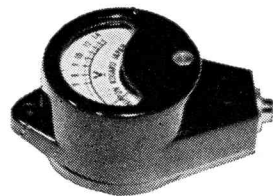

Fig. 3
- A tester (Fig. 3) is available to check the power output of new batteries and the condition of old ones in the battery pack.